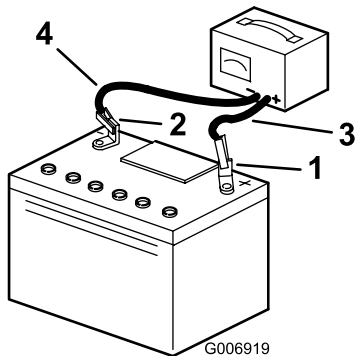

Figure 27
5. Disconnect the charger leads from the battery posts (Figure 27).